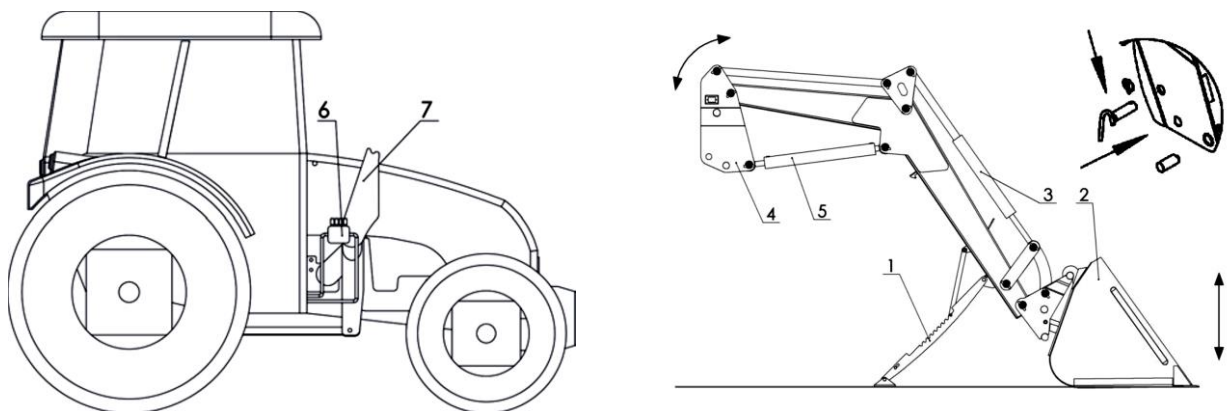

Figure 8 Frame installation on the tractor
A tractor with the frame installed is shown in Figure 8. Install the two-section hydraulic-valve block of the Loader (6) on the right-hand side of the frame (7). Connect the block valve to the tractor's hydraulic system.